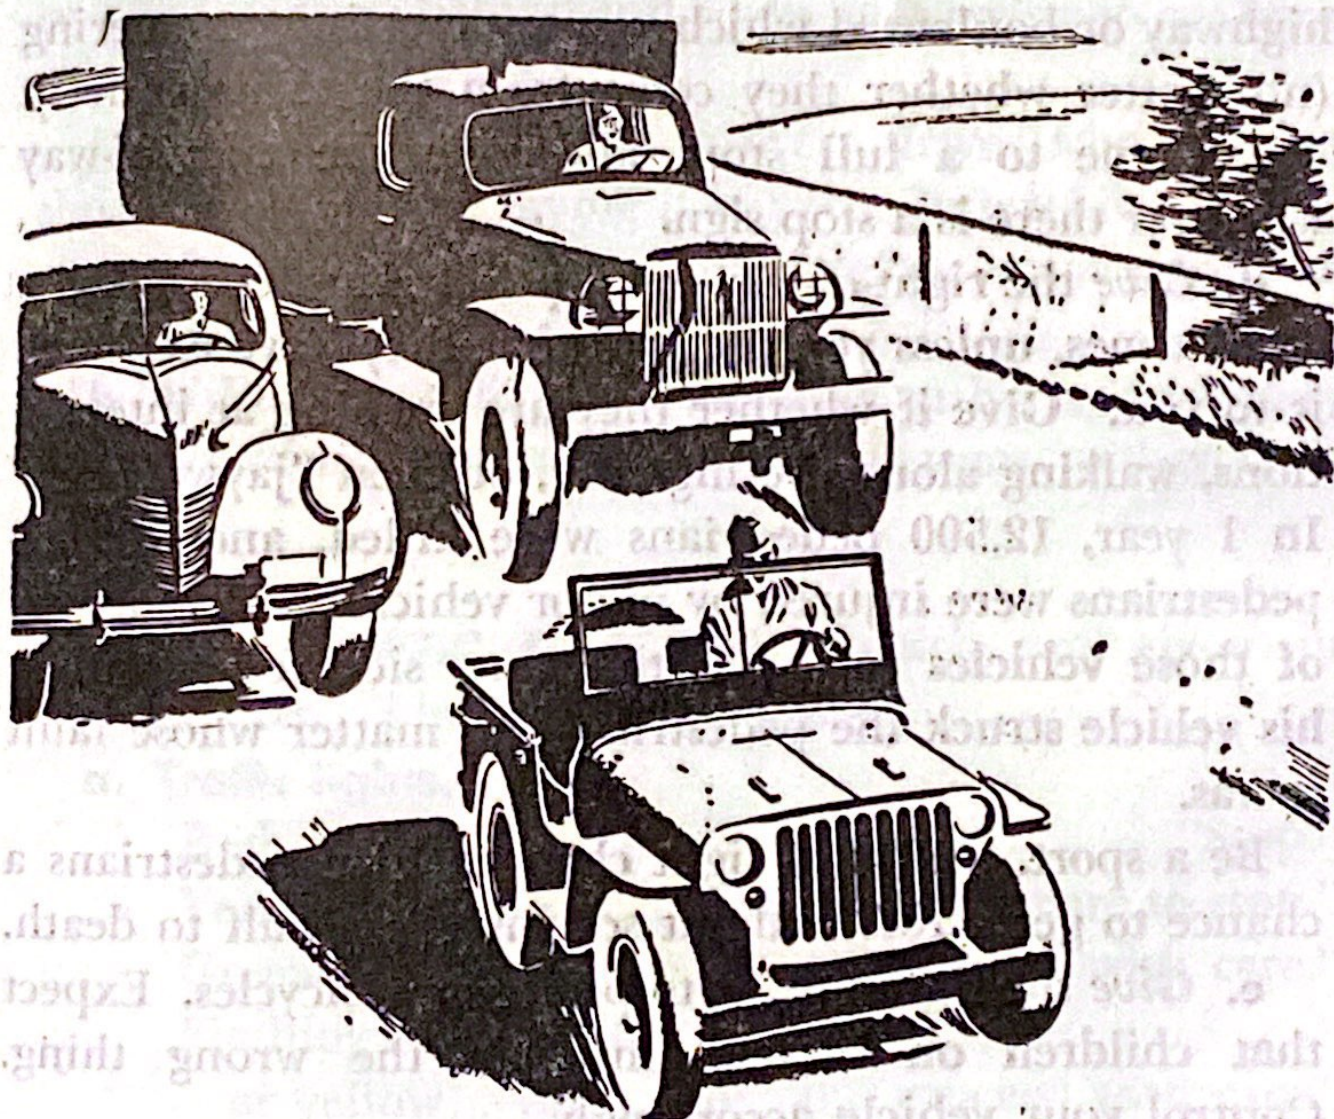

Figure 19. Don't hog the road.
40. DON'T HOG THE ROAD. Sometimes a road is too narrow for two vehicles to pass easily. When this is true, a driver trying to pass you may go into the ditch or strike a pole unless you give him extra room. Don't hog the road. (See fig. 19.) If a man from the front approaches, or a man from the rear signals to pass, *pull over*, and if necessary, *stop*. Do more than let him pass—let him pass safely. Let him get back in column.